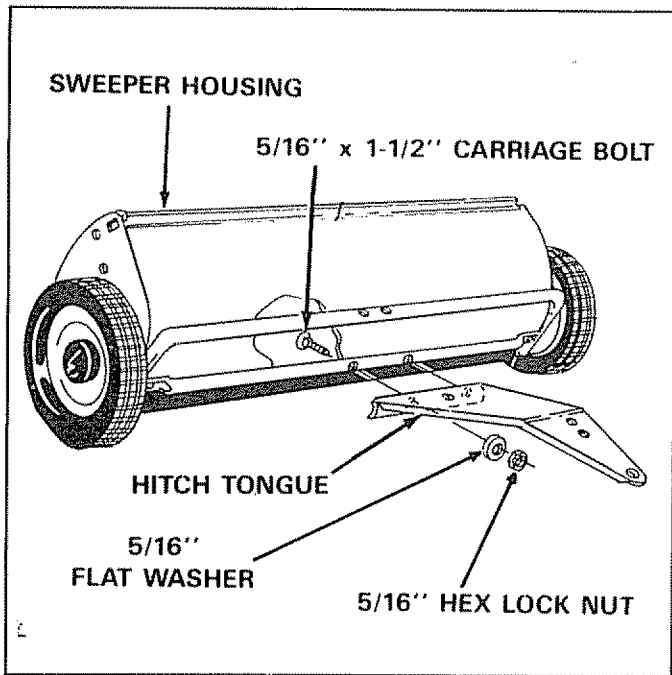

FIGURE 3
1. Remove two 5/16" hex lock nuts and 5/16" flat washers from the middle of the sweeper housing. Assemble the hitch tongue to the sweeper housing using two 5/16" x 1-1/2" carriage bolts with the heads on the inside of the housing. Secure with the two 5/16" hex lock nuts and flat washers removed above. See figure 3. **Do Not Tighten At This Time.**
4. Tighten (do not overtighten) the two bolts assembled in step 1, making sure the brace rod is pulled tight under the large flatwasher and against back bolt of hitch bracket. See figures 3, 4 and 5. Now tighten all other bolts assembled in steps 2 and 3.